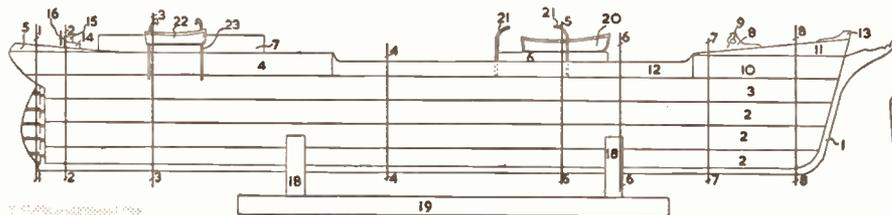
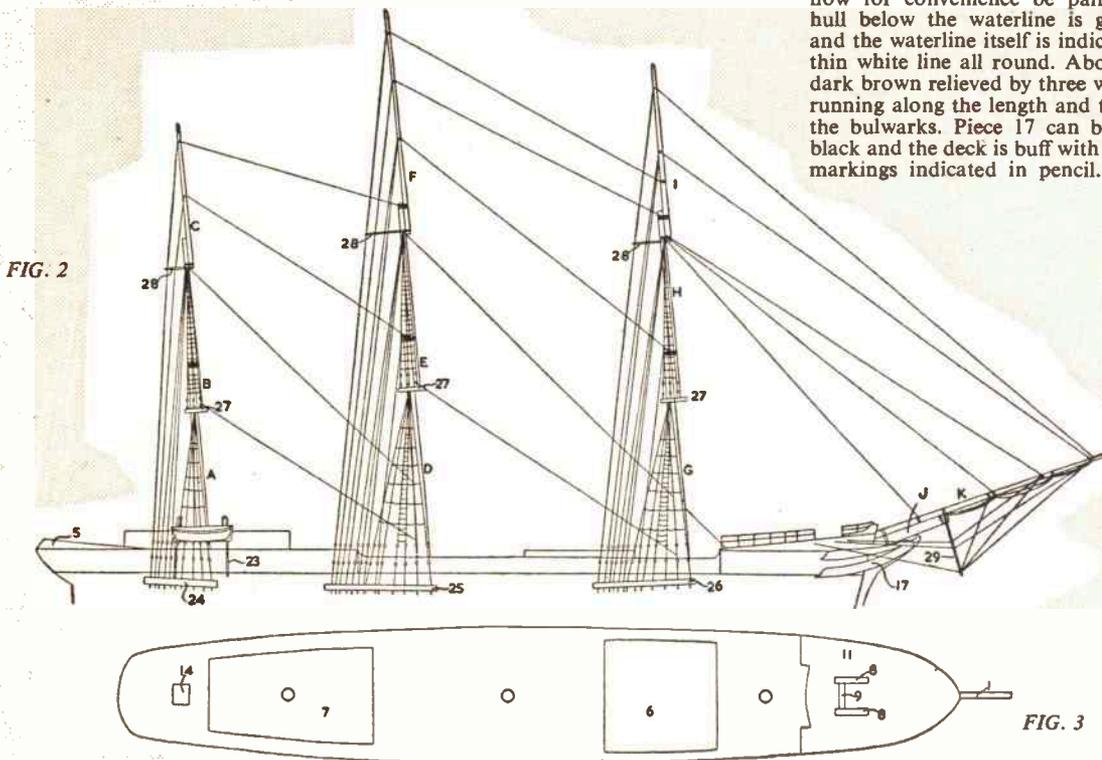
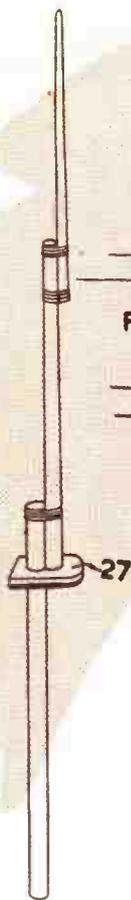

FIG. 1
FIG. 2
FIG. 5
It will be seen that the keel as shown on the design sheet consists of two pieces which are joined together at (X). This applies to models being made from Hobbies Kits, but workers who are using their own wood and materials can, of course, make the keel in one piece. The hull consists of the keel (1) and six pieces 2 which are glued 3 on each side of the keel. The deck (3) is then glued on top and pieces 4, 5, 10 and 11 are added as indicated in Fig. 1. Allow the glue to dry thoroughly and then shape this portion now completed to the section shown on the design sheet. These lines coincide with the vertical lines similarly numbered on Fig. 1, and show the
The next step is to add pieces 6 and 7 which are glued in place as shown in Figs. 1 and 3. Continue by making up
The wheel assembly consists of pieces 14, 15 and 16 and is next made up and glued to piece 5 (Fig. 1). The decorative pieces 17 are also furnished from thin card and added at the bow, being glued at the figurehead and hull as seen in Fig. 2, and in the illustration of the finished model.
When the paint is completely dry, continue assembly with the masts and rigging. The masts are made up as shown in Fig. 5, being glued and lashed with cord. The channels (24, 25 and 26) are next glued in their positions as shown in Fig. 2. Now step the masts in the appropriate holes provided in the deck and carry on with the standing rigging as seen in Fig. 2. For this use medium cord as supplied in Hobbies Kits. The bowsprit (J) is let into a hole drilled in the bow and (K) is lashed on the top side of (J). Rigging should be tied to the masts and bowsprit and attached to the deck by small staples made from beheaded fretpins. A touch of glue will give added strength to the knots.